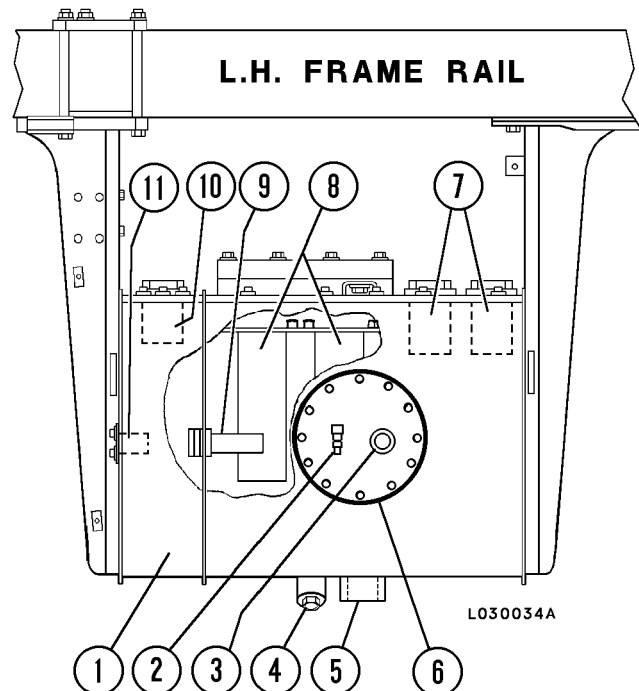

FIGURE 4-2. HYDRAULIC TANK (TOP VIEW)
1. When checking oil level, or any other service, inspect the breather (3, Figure 4-2) to be certain that it is open to atmosphere.
2. Clean dirt accumulation from area of breather (3, Figure 4-2).